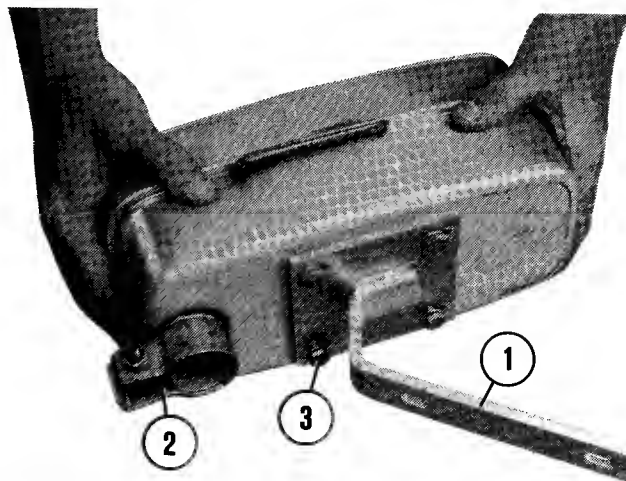

Figure 4 Muffler Preassembly
- A. Loosely preassemble the bracket and clamp to the muffler as shown in Figure 4. The bracket should move freely on the muffler.